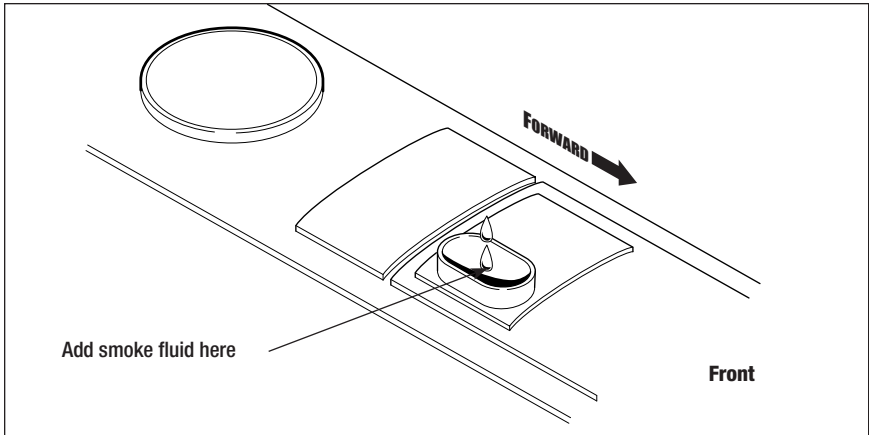

Figure 3. Stack location
**Y**our locomotive is equipped with a smoke generator that produces safe, clean, white smoke during operation. A reservoir beneath the stack contains the fluid and wick which, once saturated, supplies the heating element with the right amount of fluid. Add 10-20 drops to the duct (shown in Figure 3) to prime the locomotive or after being stored for an extended period of time, and then add 10 to 20 drops to refill when smoke production decreases. When refilling, **DO NOT EXCEED 20 DROPS** as this can cause your smoke units to become oversaturated allowing leakage onto the electronics. Note that operating your locomotives' smoke units without smoke fluid will cause damage to the heating element.